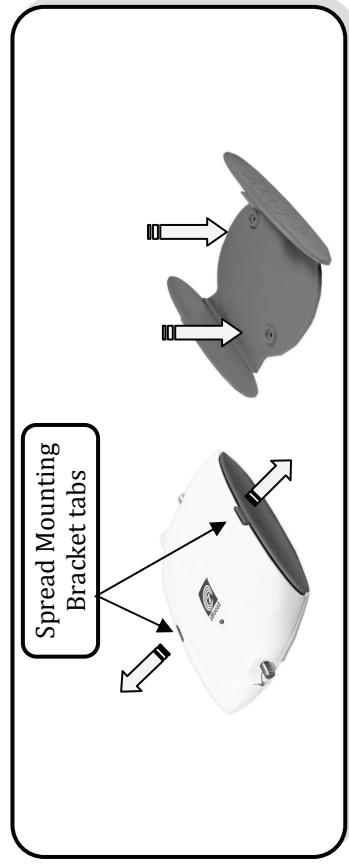

Figure 8: Wall Mounting the Base Unit
1. Remove the mounting bracket from the Base Unit by firmly spreading one of the tabs outward from the base unit as illustrated in figure 8.